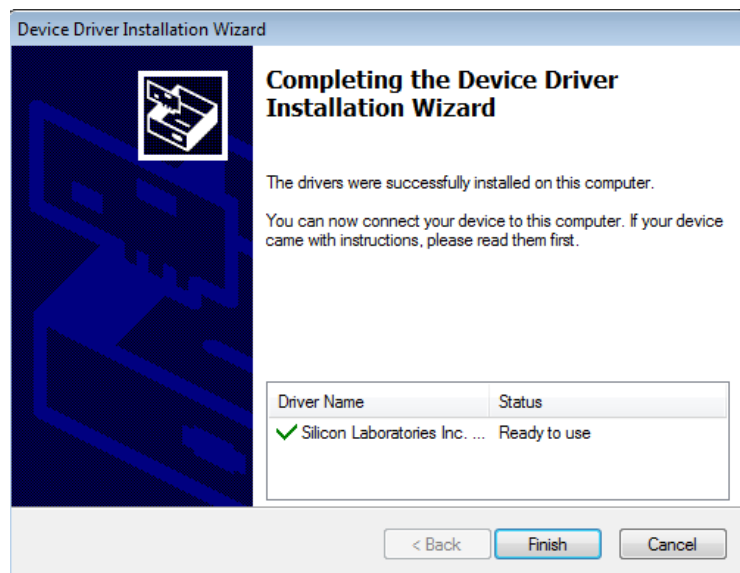

Figure 5: Successful Driver Set-Up
4. Wait for the status screen to verify that installation is complete (see Figure 5).